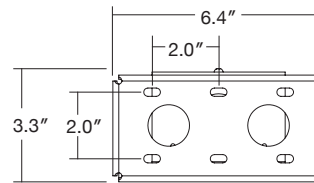

Fig. 2
**Note:** Each mounting bracket has three sets of mounting holes spaced by 2" to be used as required (Fig. 2). Use at least 3 holes to fasten brackets to the wall. Ensure brackets are level.